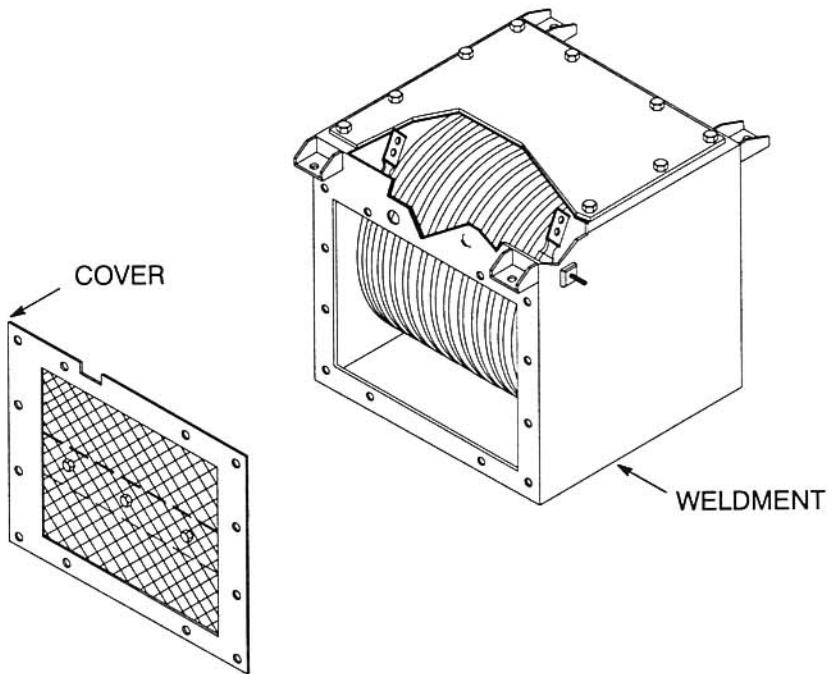

Figure 7-191 Inspection/Check Line Filter Reactor 41A281970P1
- a. Visually inspect Line Filter Reactor (Figure 7-191) for signs of physical damage. Report damage to supervision.